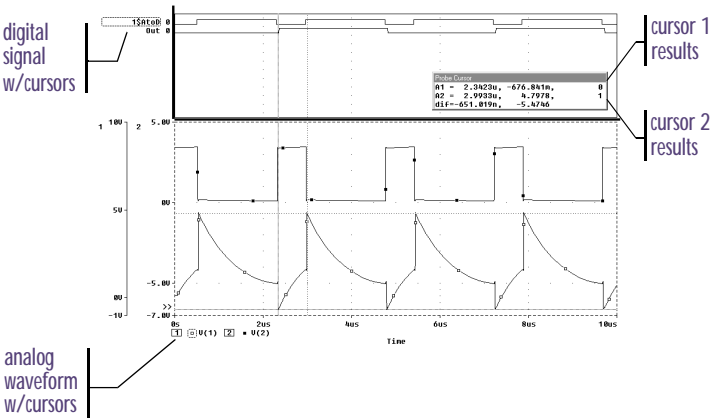

Figure 97 Cursors positioned on a trough and peak of V(1)
Figure 97 shows both cursors on the V(1) waveform in the analog area of the plot.
The mouse buttons are also used to associate each cursor with a different trace by clicking appropriately on either the analog trace symbol in the legend. These are outlined in the pattern corresponding to the associated cursor's crosshair pattern. Given the example in Figure 97, right-clicking the V(2) symbol will associate cursor 2 with the V(2) waveform. The analog legend now appears as shown below.